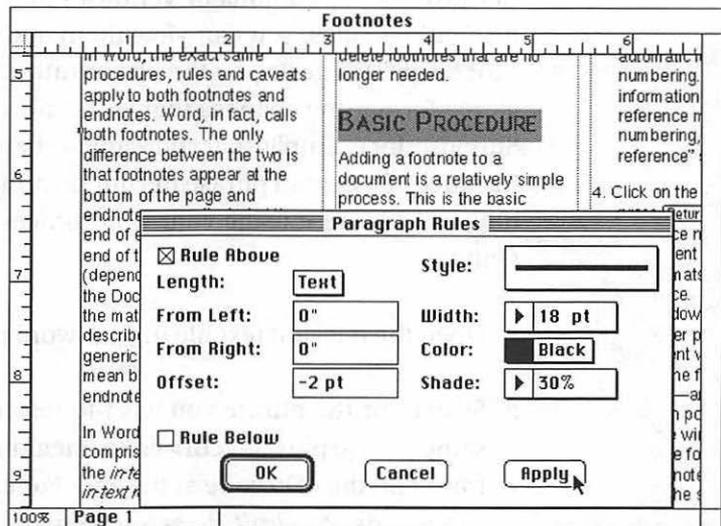

FIGURE 4-23 You can also use paragraph rules in XPress to highlight text.
In XPress, the principles are more or less the same; the differences are in the details. These are the steps for the example in Figure 4-23:
4. In the Offset text box, enter a negative offset value to center the rule over the text. Since this text box expects a percentage value, enter the appropriate unit of measurement after the offset value (as in the dialog box in Figure 4-23). In most instances, a small offset value will do.